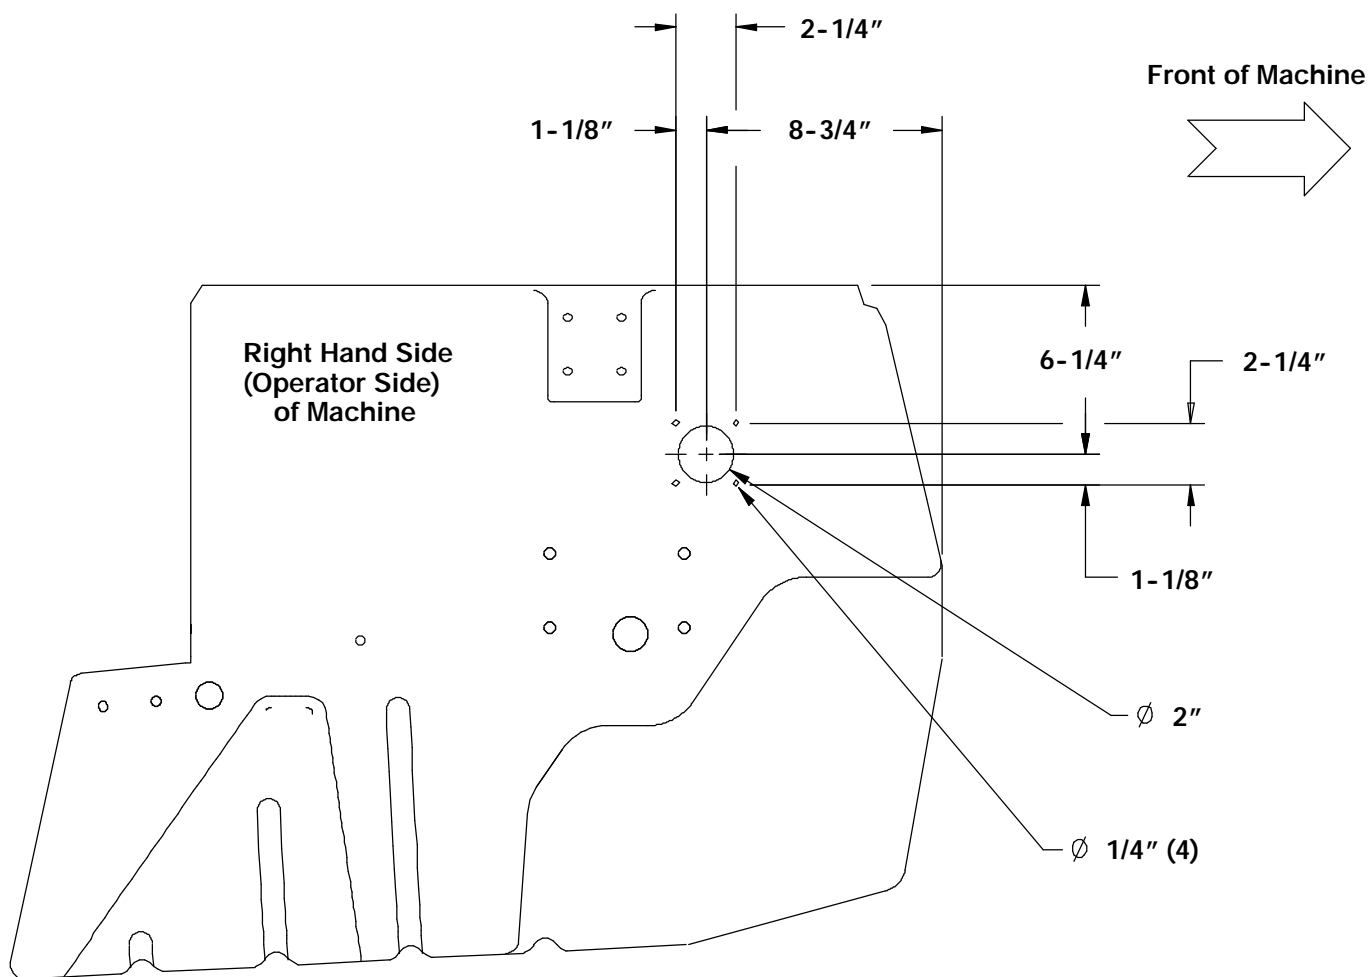

FIG. 3 - Location of Holes to be Drilled for Vac Wand Adaptor
6. Drill holes for vacuum wand adaptor (1) on the operator side of the machine according to dimensions in FIG. 3.